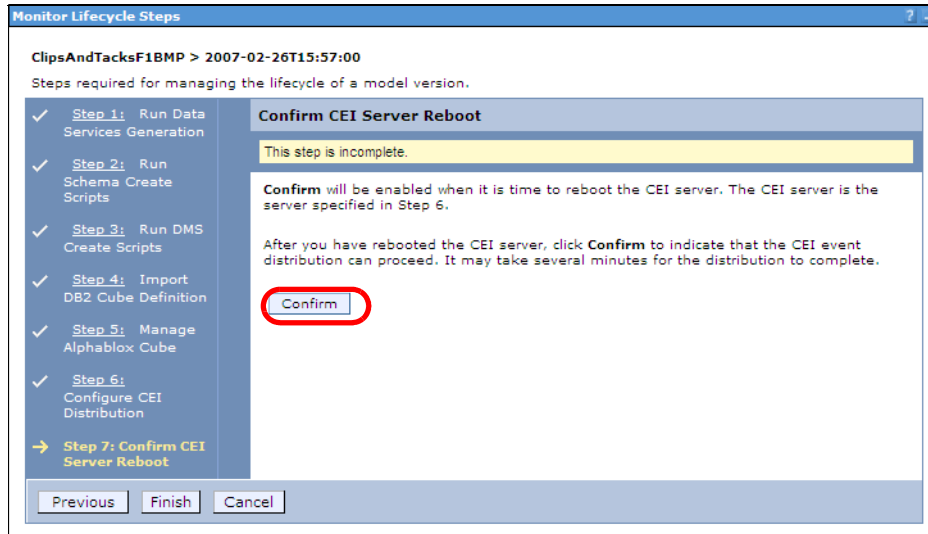

Figure 14-30 Monitor life cycle: Step 7
- ▶ Click *Confirm* (Figure 14-30).